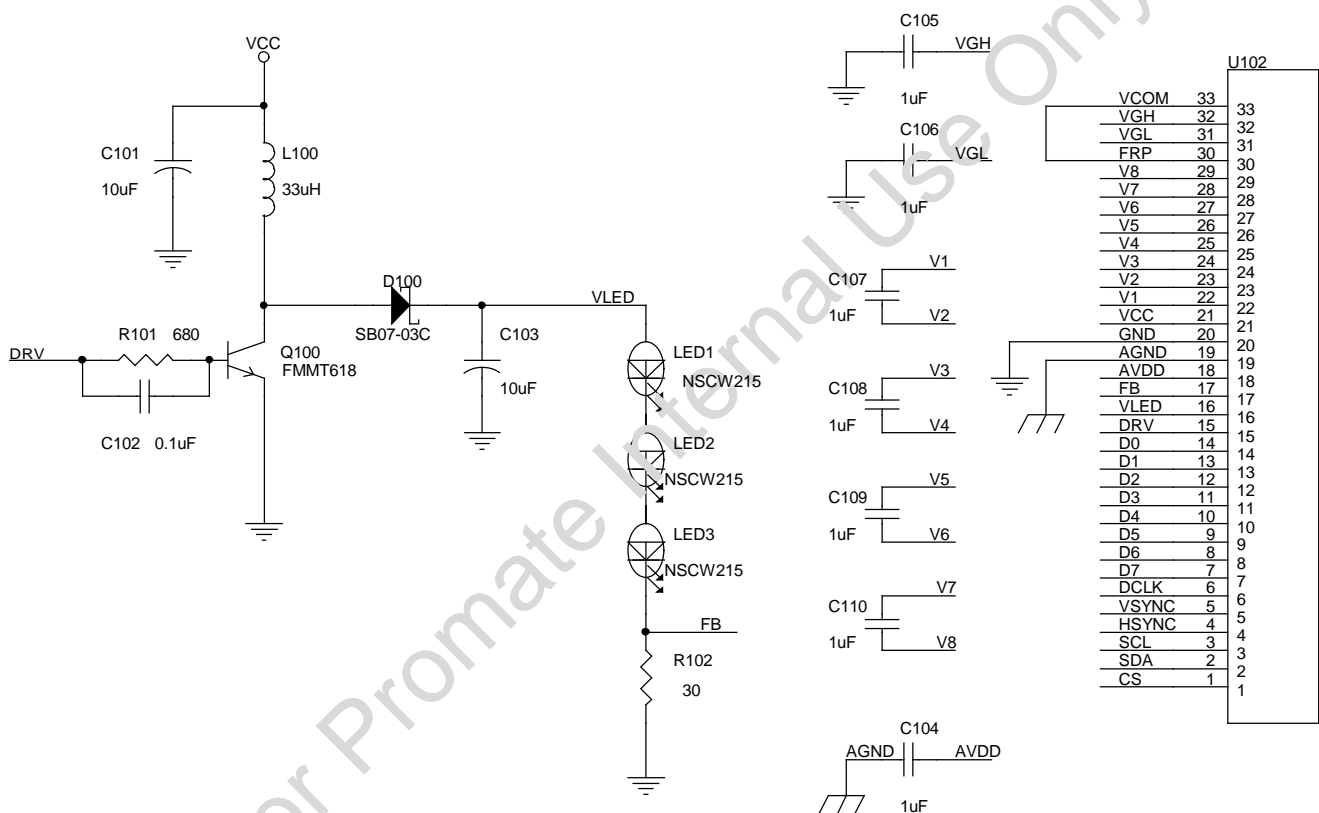

Fig.11 Typical Application Circuit
The integrated driver IC provides build-in LED booster controller, DC-DC charge pump, and Vcom driver. See Fig. 11 for the application circuit.
According to Fig. 11, the L100, Q100, D100, and C103 together form the LED boost converter. The converter with 0.6V feedback (FB) and R102 provide a constant 20mA current for LED backlight unit. The boost converter switching signal DRV is generated based on divided frequency of DCLK. Therefore the DCLK input is required for LED driver operation, and the absent of DCLK signal during normal operation will set the driver IC into standby mode. A low ESR capacitor for C103 is recommended in order to reduce voltage ripple of